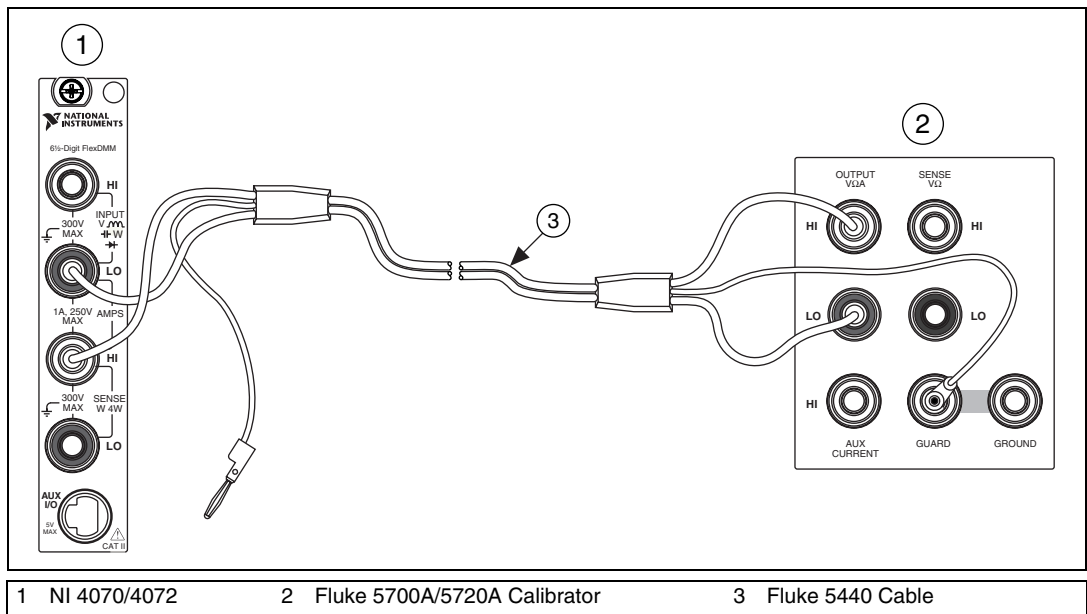

Figure 5. Cable Connections for Current
2. Fasten the connectors on one end of the Fluke 5440 cable to the NI 4070/4072 *HI SENSE* and *LO* banana plug connectors, and connect the connectors on the other end of the cable to the *HI* and *LO* calibrator binding posts. Figure 5 shows the correct connections. Table 10 lists the cable connections.
2. Fasten the connectors on one end of the Fluke 5440 cable to the NI 4070/4072 *HI SENSE* and *LO* banana plug connectors, and fasten the connectors on the other end of the cable to the *HI* and *LO* calibrator binding posts. Figure 5 shows the correct connections. Table 10 lists the cable connections.